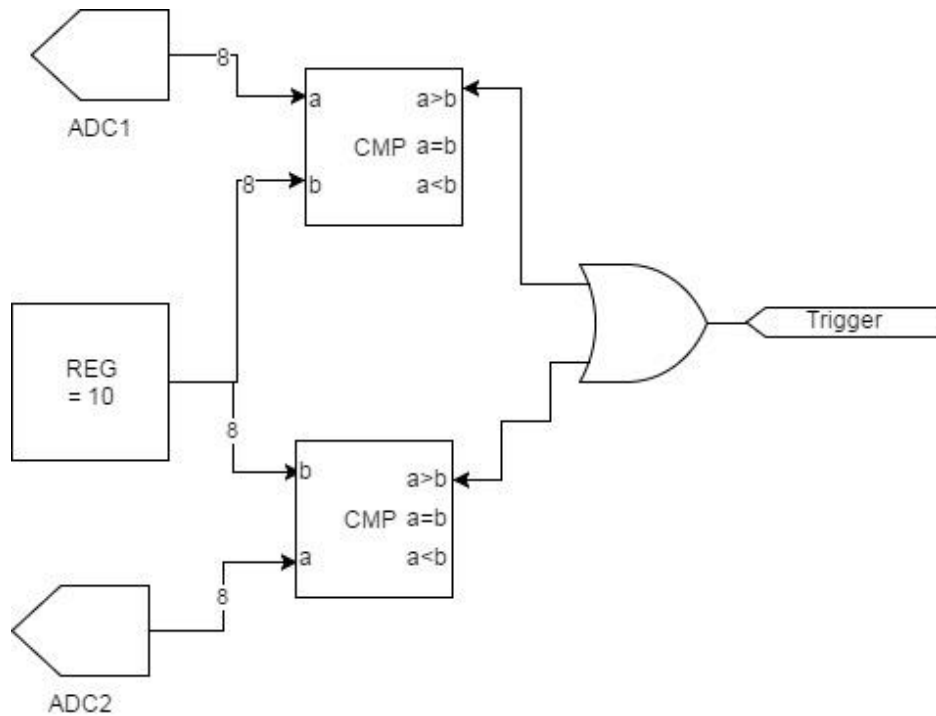

Figure 1 Cluster Topology for Question 1
- Given the combinational circuit in Figure 1, what is the speedup of this circuit in updating the TRIGGER output in comparison to the speed the OIC is updating its TRIGGER (as worked out in (c) above). The comparators (CMP) take 50ns to update, the OR gate takes 10ns, the ADC updates whenever it wants to (i.e. assume the ADC and REG are inputs and no delays in getting their data). [2 marks]